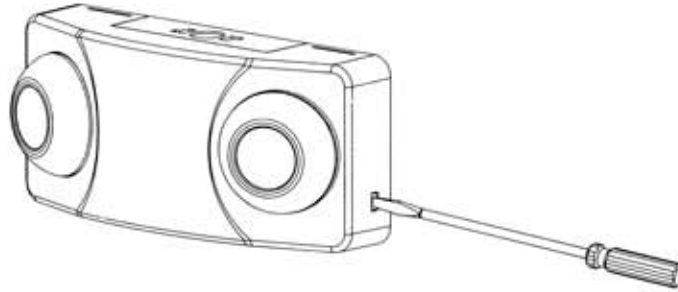

Fig.1
1. Use flat blade screwdriver into the slot and gently pry off the housing.(see Fig.1)